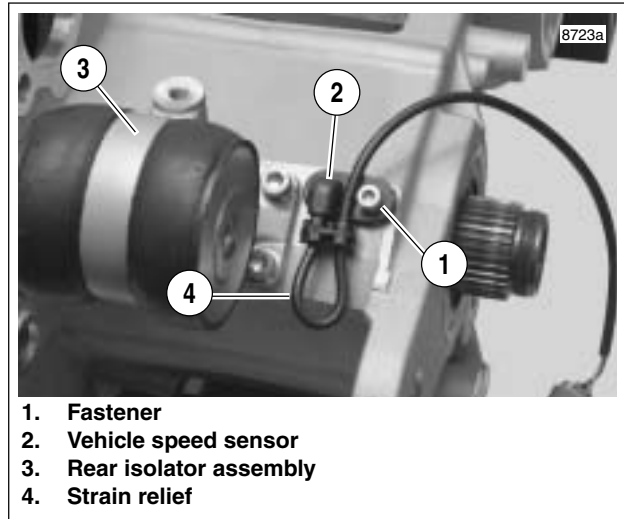

Figure 7-64. Speedometer Sensor
1. See Figure 7-64. Remove fastener (1) to detach vehicle speed sensor (2) from crankcase.
2. Remove cable strap (4).
1. See Figure 7-64. Lubricate O-ring with engine oil and install fastener (1) to attach vehicle speed sensor (2) to crankcase.
3. Install cable strap (4).